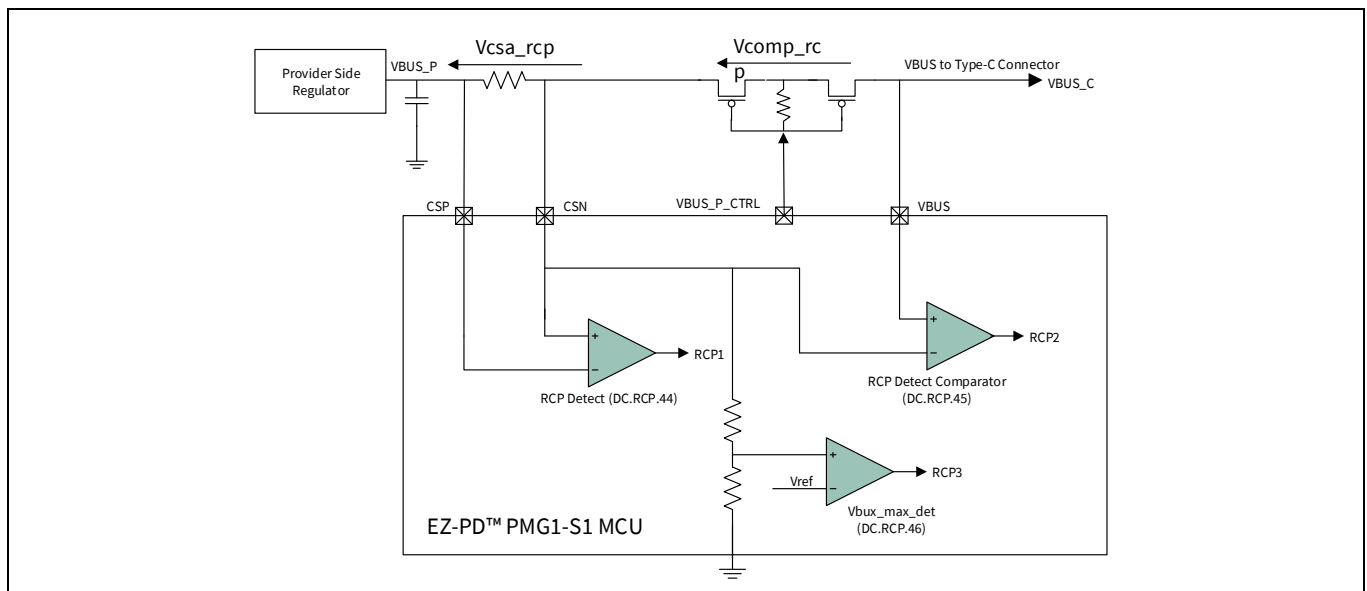

Figure 6 RCP mechanism
EZ-PD™ PMG1-S1 has three distinct mechanisms to detect the reverse current as shown in **Figure 6**.
- Mechanism 1: A comparator senses the voltage drop across external Rsense through pins CSP and CSN. This comparator signals an RCP event whenever $CSN > CSP$ by the V_{csa_rcp} voltage given in **Table 34**. The output of this comparator RCP1 is shown in **Figure 6**.
- Mechanism 2: A comparator senses the voltage drop across provider FET through CSN and VBUS pin of EZ-PD™ PMG1-S1. This comparator signals an RCP event whenever $VBUS > CSN$ by the V_{comp_rcp} voltage given in **Table 34**. The output of this comparator RCP2 is shown in **Figure 6**.
- Mechanism 3: A comparator senses the 20% voltage of the CSN pin and compares it against $V_{ref} = 1.15\text{ V}$ for 5-V provider VBUS application. This comparator signals an RCP event whenever CSN voltage goes above $V_{bus_max_det}$ voltage given in **Table 34** for a 5-V application. The output of this comparator RCP3 is shown in **Figure 6**. Note that V_{ref} is programmable and the voltage divider has an option to use 10% or 20% value. For a higher voltage of the provider, the VBUS device automatically adjusts this threshold.